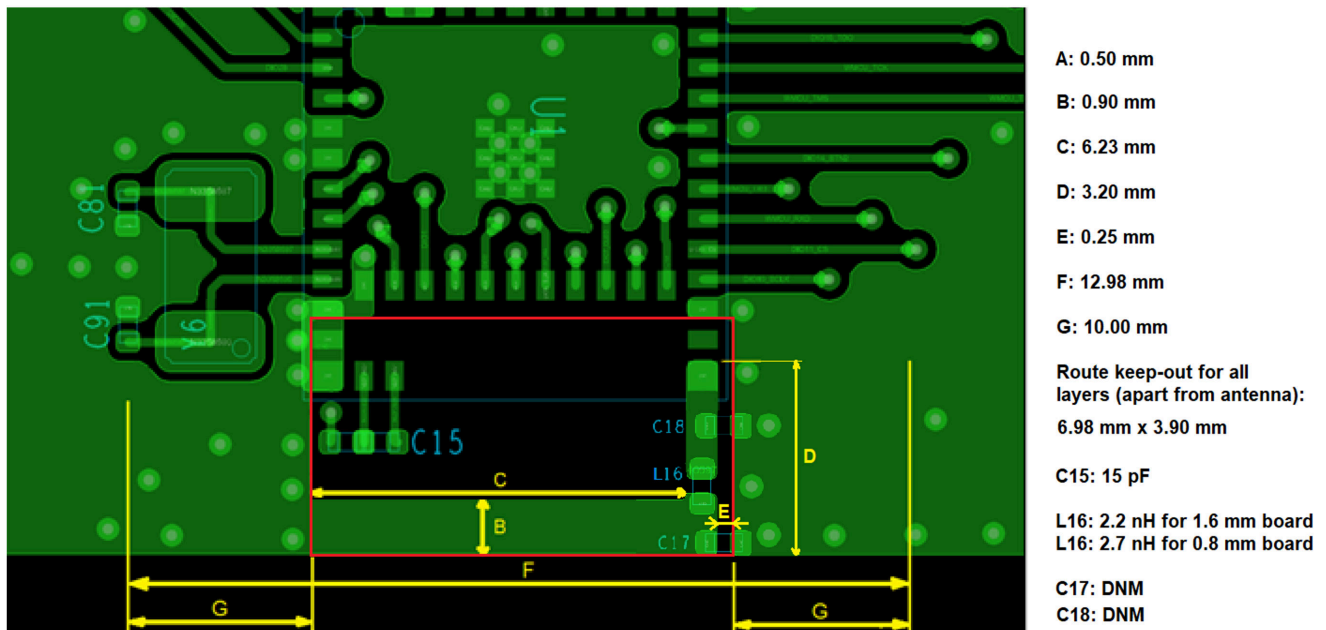

图 10-8. Alternate Module Layout Guidelines
The PCB layout guidelines recommended in this section are to be used when the PCB requirements of 节 10.4.2 cannot be strictly followed. This would include deviation from the recommended 4-layer PCB stackup, dielectric constant, and outlined design rules. 图 10-8 shows the RF placement and routing of the CC2651R3SIPA module with the 2.4-GHz integrated antenna.
- Dimensions A thru F in 图 10-8 must be strictly adhered to for optimal RF performance
- For optimal efficiency of the antenna, its best to have a minimum 10-mm ground plane on either side of the module on all layers as shown with dimension G in 图 10-8